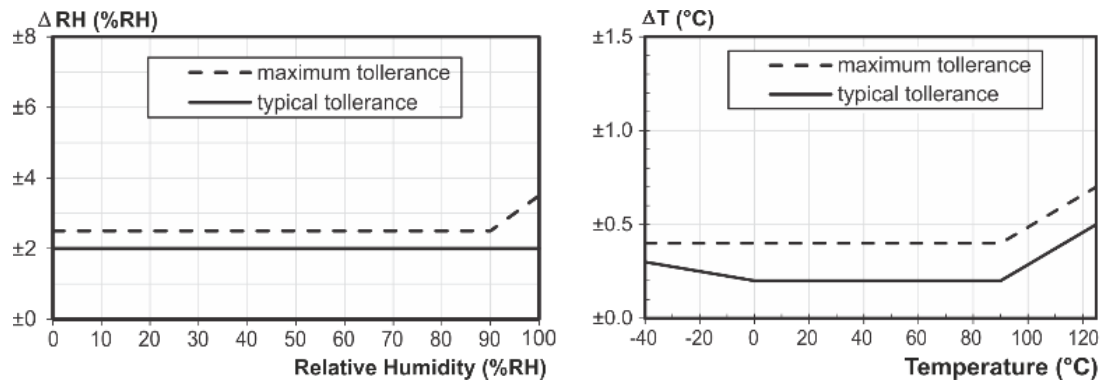

Figure 7: Sensirion SHT31 temperature and relative humidity accuracy
- Typical accuracy @25°C: ±2% (refer to Figure 7)
- Typical accuracy: ±0.2°C from 0°C to 90°C (refer to Figure 7)